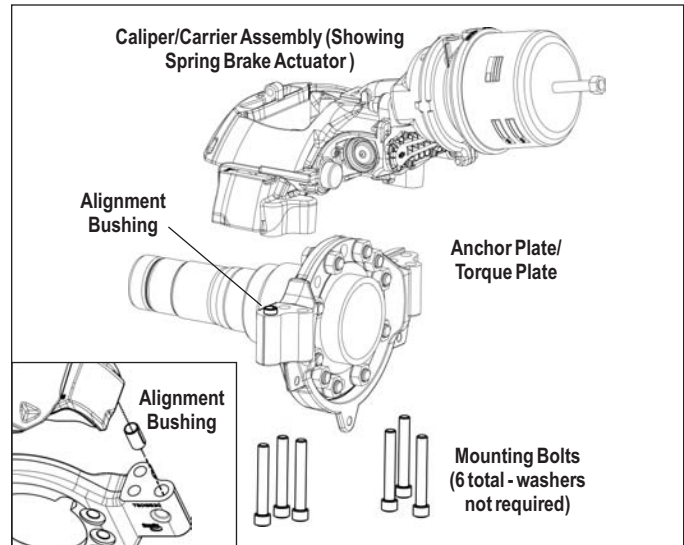

FIGURE 41 - VERTICAL MOUNT CALIPER/CARRIER
5.2.16 Install the pad retaining springs(2) onto the brake pads(12) by inserting one end of the spring onto the lug at the top of the brake pad (See Figure 41). Carefully apply enough force to permit the second lug to fully engage, taking care to keep fingers etc. away from the spring as it seats.
5.3.3 See Figure 41. Supporting the air disc brake by necessary means, remove the six (6) mounting bolts/washers and discard. Note: Bendix strongly recommends that during re-assembly these bolts are replaced - see your vehicle manufacturer for replacement hardware. Lift the caliper up off the anchor plate.